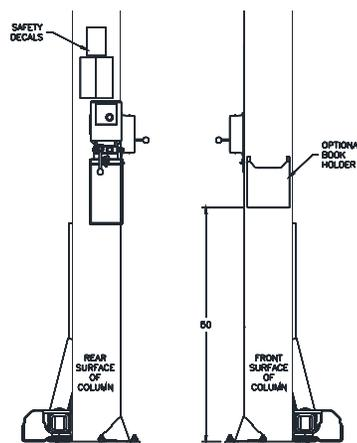

Fig. 19 – Safety Decal and OPTIONAL Book Holder Placement
- 48) Clean surface of power column above the power unit and install Safety Decals, **Page 3** and **Fig. 19**.